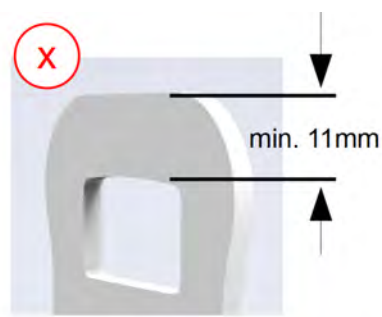

Abb. 2
| Grinding bowl holder (8) (Fig. 2) | Keep tension Original height 14 mm | Minimum measurement at grinding bowl holder 11 mm (x) | After every 200 h Check minimum height as shown in Fig. 2. If the height is under the minimum height, the corresponding part has to be replaced. |